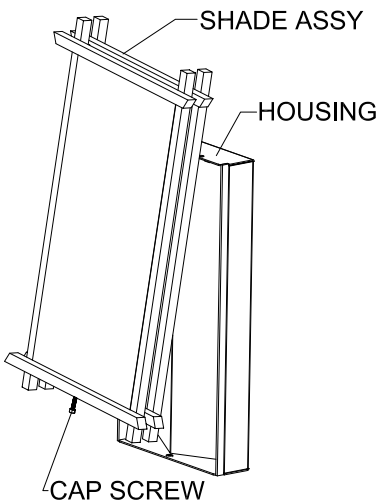

Figure 1
Step 1 Carefully unpack fixture and remove shade assembly from electrical housing. To remove the shade assembly, locate and remove the lower screw that retains the bottom bar of the shade assembly. Carefully remove screw and separate decorative shade assembly from electrical housing by pulling the lower portion out and lifting the shade assembly from the housing. (See Figure 1)
Step 8 Install decorative shade assembly. Position the top portion of the shade assembly towards the upper shelf of the fixture housing at a slight angle and align the posts in the shade with the holes in the top of the housing. Carefully lower the shade assembly and press the bottom of the shade assembly towards the fixture housing. Secure into position with cap head machine screw. (See Figure 1 and 6)